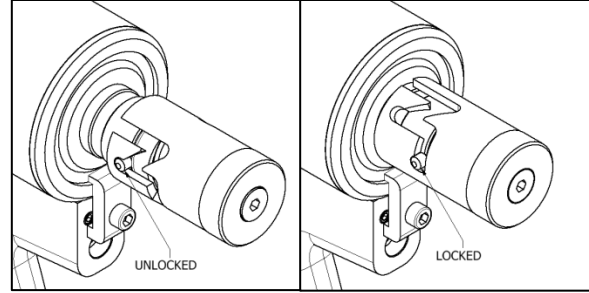

Figure 4: Safety Stop
1. Set the Gun Lock Safety Stop to the LOCKED position (see Figure 4).